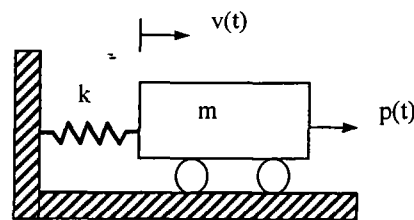

Figure 5
5. (a) Derive the equation of motion for the 1-dof mass spring model given in Figure 5 where k is stiffness of the system, m is mass of the system, $p(t)$ is time varying external load acting on the system and $v(t)$ is displacement of the system. Take the self-weight of the mass block into consideration in the derivation. Show clearly the reference position of the time varying displacement $v(t)$ with the aid of diagram.